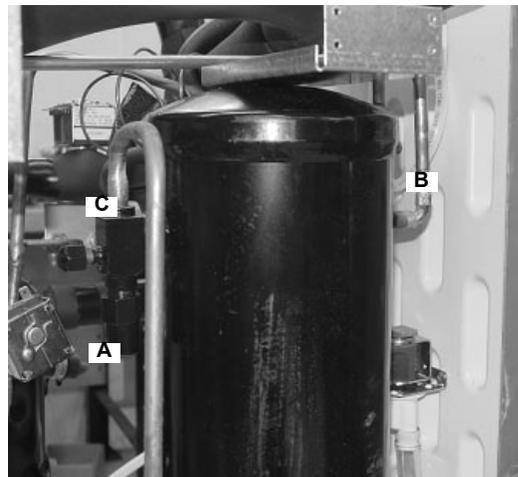

Figure 33.
Braze the Liquid Line with Filter Drier to the receiver outlet (C) (Figure 33).